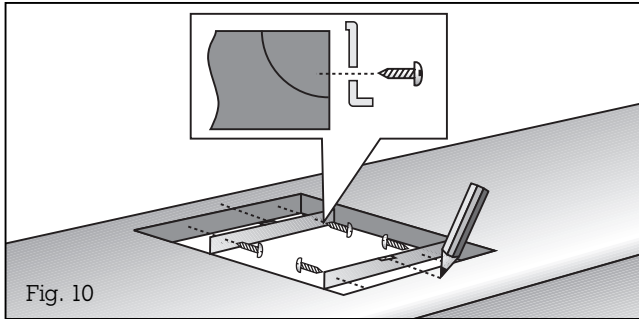

Fig. 10
– **Mark the centre of the recess exactly.** Secure the securing rails on the front and rear edges of the recess. Make sure that the lugs of the securing rails lie on the worktop and that the centre marking of the securing rails is precisely flush with the centre marking on the worktop (Fig. 10).